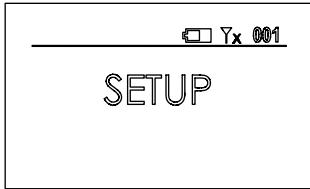

Fig. 3
1. Starting from the connecting screen (figure 2) press and hold the power button until "setup" is shown on the screen (figure 3). Release the button.